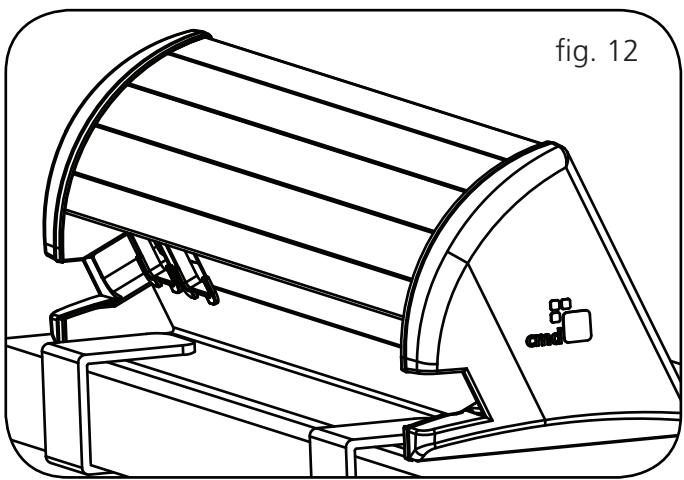

fig. 12
3. Fix the two C clamps at each end of the unit. Note, when a single C clamp is used you must ensure the C clamp is in the centre of the module (fig. 12).